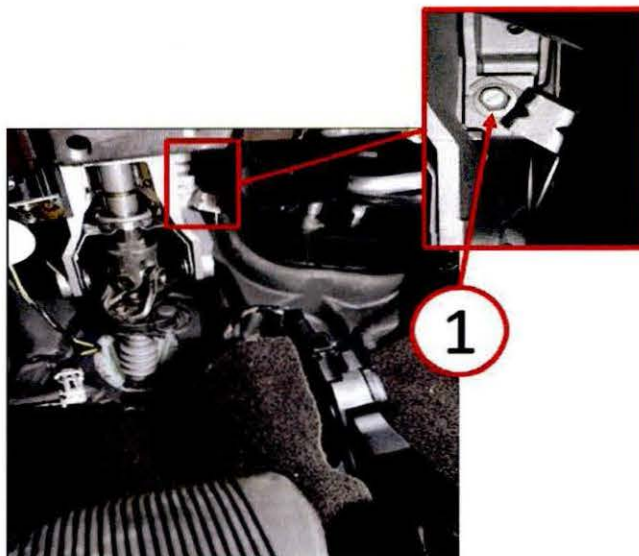

Fig. 1 Steering Column Bracket
1. **Inspect the vehicle for the steering column lock control module wiring harness bracket (Fig. 1). Is the steering column lock control module wiring harness bracket installed?